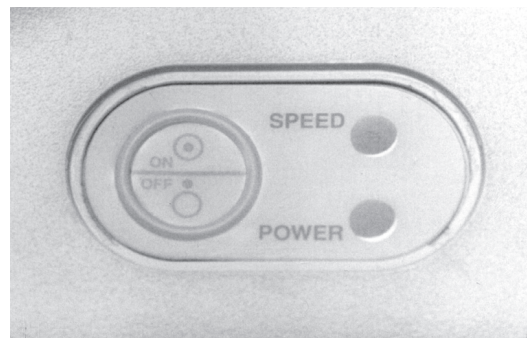

Figure 4-1. Detail of ON/OFF Button and POWER/SPEED LED's.
- To start the 5-min spin, press and release the "ON/OFF" button on the front deck of the centrifuge (Figure 4-1). The rotor will begin accelerating until it stabilizes at the design speed. See Section 4.5 for sequencing of 'POWER' and 'SPEED' indicator lights.